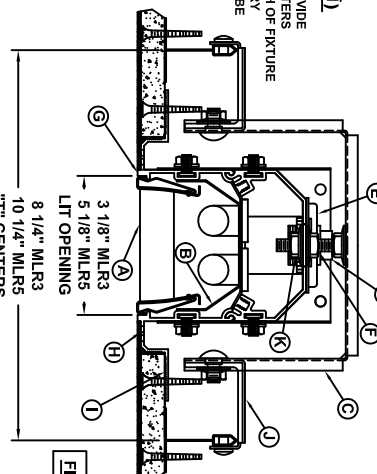

FIG. 1
CEILING CONTRACTOR TO PROVIDE SUPPORT T'S OR CARRYING CHANNELS AS DESCRIBED IN STEP 1 ON FRONT PAGE. (REF. FIG. 1 OR 2)
STEP 1: DRYWALL "T" CEILING CONSTRUCTION (FIG. 1)
CEILING CONTRACTOR TO PROVIDE TWO FIXED MAIN "T'S" ON CENTERS INDICATED IN FIG. 1 BY LENGTH OF FIXTURE RUN AS INDICATED ON FACTORY SHOP DRAWINGS. T'S SHOULD BE ADEQUATELY SUPPORTED TO CARRY WEIGHT OF FIXTURE.
DRYWALL CONTRACTOR TO ATTACH DRYWALL TO PERIMETER FLANGE SERRATED SECTION (I) OF FIXTURE WITH SELF DRILLING DRYWALL SCREWS. (REF: PAGE 1 FIGURES 1 & 2)